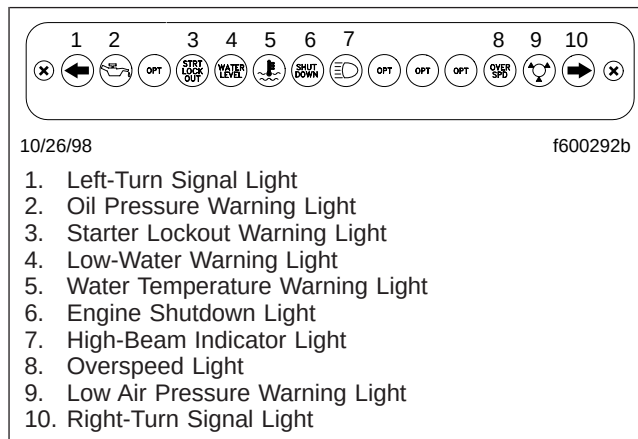

Fig. 2.23, VIGIL III Warning System, Optional
The VIGIL III system is an electronically controlled warning system with maximum vehicle speed control, vehicle overspeed reporting, and optional engine shutdown. It controls the turn signal functions and various optional functions. A solid-state lightbar (Fig. 2.23) in the instrument panel contains displays for the functions.
- If the engine overheats, a warning light (Fig. 2.23) comes on and a buzzer sounds. The temperature that triggers the warning light and buzzer varies with engine type and is programmed into the system at the factory. If the temperature continues to rise to critical levels, the engine shutdown light comes on, and the engine will shut down (if equipped with the shutdown feature).
The system operates the turn signal relay and the turn indicators (Fig. 2.23).
NOTE: If the lockout feature activates to let the starter cool, the starter lockout warning light (Fig. 2.23) will be on for the two-minute cooling period. If the lockout feature activates for any other reason, the light will glow only if the starter button is pressed within two seconds of the lockout occurring, and it will be on only as long as the button is pressed.
- The system features a speed governor for maximum vehicle speed control. The governor can be set anywhere between 45 and 85 mph (70 and 140 km/h), and controls vehicle speed by cutting fuel delivery pressure when the pre-determined speed is reached. If this system is malfunctioning, the lightbar overspeed light (Fig. 2.23) will flash on for ten seconds each time that the engine is started.
The system also controls several functions such as headlight high beam indicator (Fig. 2.23), low air pressure warning light and alarm, and control for four optional features. The optional features can be any combination of the following or any four that are specially ordered: